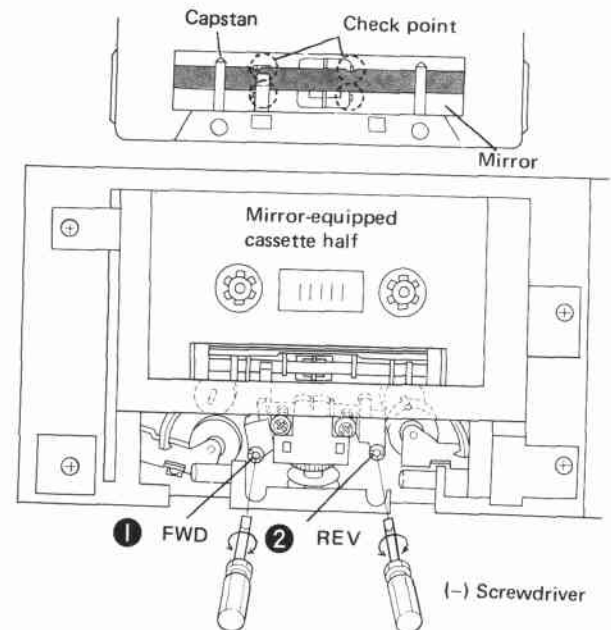

Fig. 12-3 Tape transport adjustment
3. Adjust the adjust nut ① so that no curling takes place on REC/PB head guide and erase head guide as shown in Fig. 12-3.
5. Adjust the adjust nut ② so that no curling occurs on REC/PB head guide and dummy head guide.